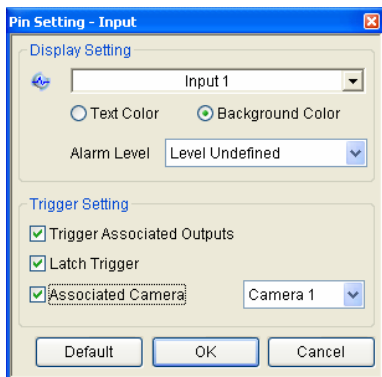

Figure 4-40
- **Use User-defined Text:** Allows you to modify the text of Alarm Level (see Figure 4-40).